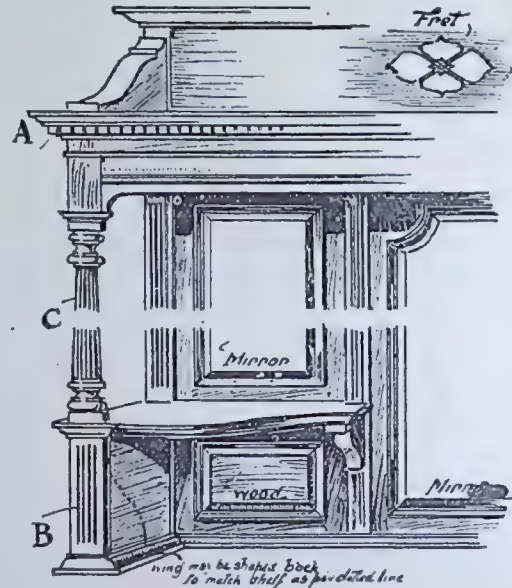
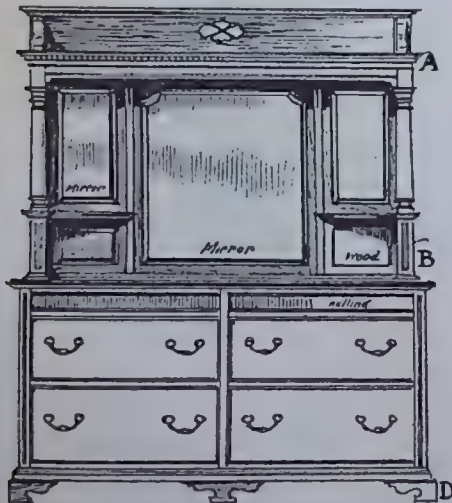

FIG. 2.—DETAILS OF SIDEBOARD BACK (No. 382.)
FIG. 1.—SIDEBOARD BACK (No. 382.)
REPLY.—The dimension you give indicate a rather bulky piece of furniture, and from the sketch sent it might be either a chest of four deep drawers or a base for sideboard—which, you do not say. Assuming you have the latter in mind the sketches herewith should be of assistance to you. Height from table top to upper shelf shows 3 ft., with a total height of 3 ft. 6 ins. A couple of shelves are introduced under the smaller mirrors, fitted 10 ins. high. Size of centre mirror, say 27 ins. by 27 ins., and side mirrors about 18 in. by 9 ins., bevelled. Projection of upper shelf can be 8 ins., above which a couple of shaped wing brackets and a central back fret are indicated. Bevelled wood panels are shown under smaller shelves, and the turned columns each rest on projecting panel bases (B). The whole thing is sketched to give an idea of the finished effect, while at Fig. 2 the detail to a larger scale should assist matters. The cornice (A) can be allowed 1½ in., with a dentilled member. The supporting column of
2 ins. stuff, or 2½ ins. by 2½ ins., may have either a plain shaft (Fig. 1) or preferably be reeded as C, Fig. 2, or fluted. The uprights are also indicated as with four flutes. The shaped and moulded shelves, should finish ¾ in. thick, and the base mould say 1½ in. thick. Back is framed up of 1 in. stuff; outer stiles 4½ ins. wide; inner stiles 6½ ins. wide; top rail 6 ins. wide; bottom rail 3 ins. wide; and the carrying